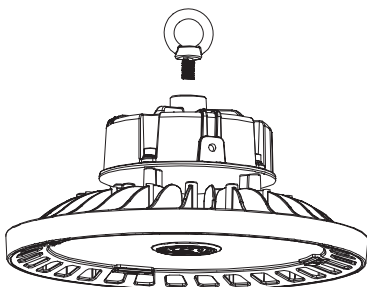

Fig. 1
1. Screw the hook into the fixture, tighten and fix it. (Fig. 1)